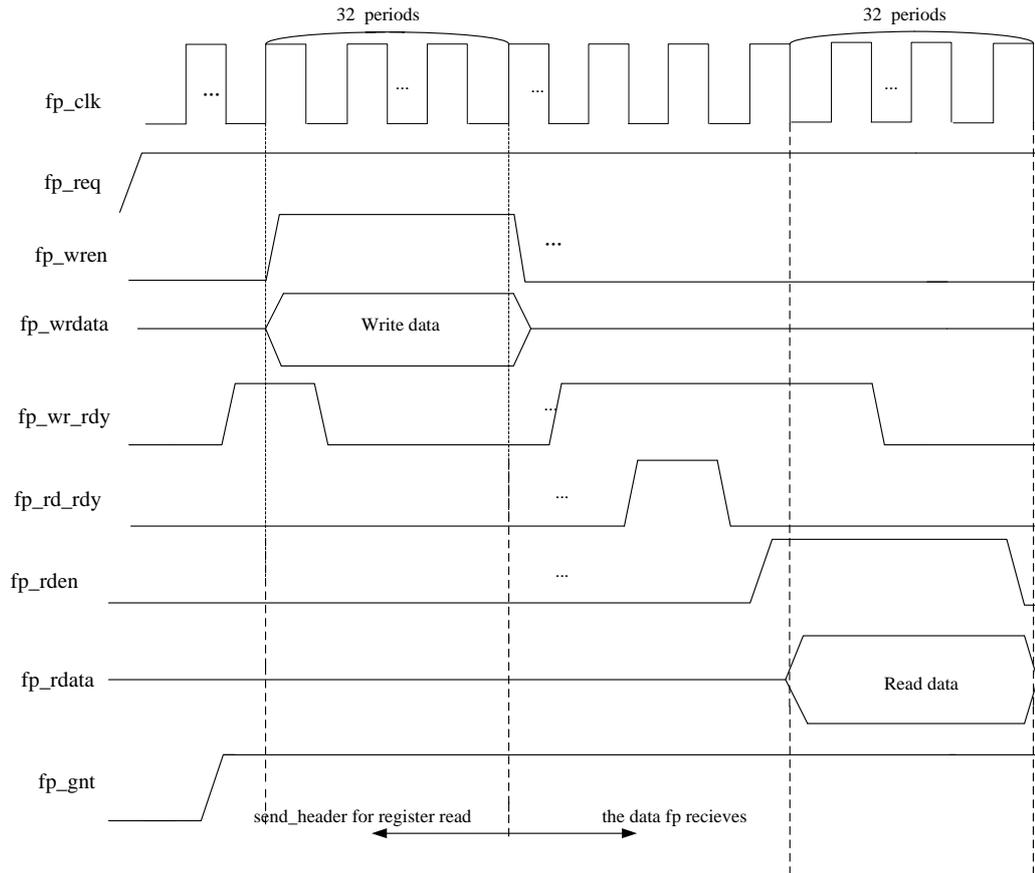

Fig 2 Waveform for FP_SPI read and write
- 1) Write Header: The high 24 bit is the write command and the low 8 bit is the register NO. Refer to the Fig 2 and ISC.c.
- 1) Write Header: The high 24 bit is the read command and the low 8 bit is the register NO. Refer to the Fig 2 and ISC.c.